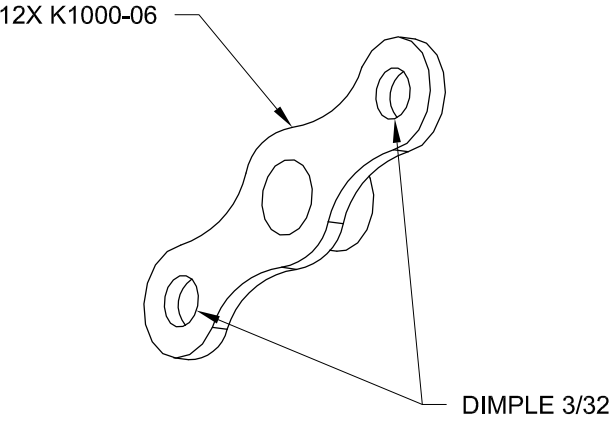

FIGURE 2:
Step 5: Dimple, using a 3/32 die, the attach rivet holes in the nutplates called out in Figure 2.